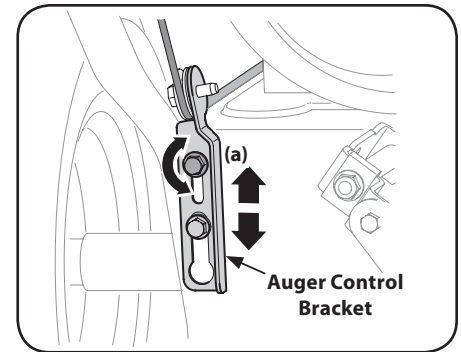

Figure 2-42
4. Allow auger to remain engaged for approximately ten (10) seconds before releasing auger control lever. Repeat this several times.
7. To readjust the auger control cable, loosen upper hex screw (a) on auger control bracket. See Figure 2-42.